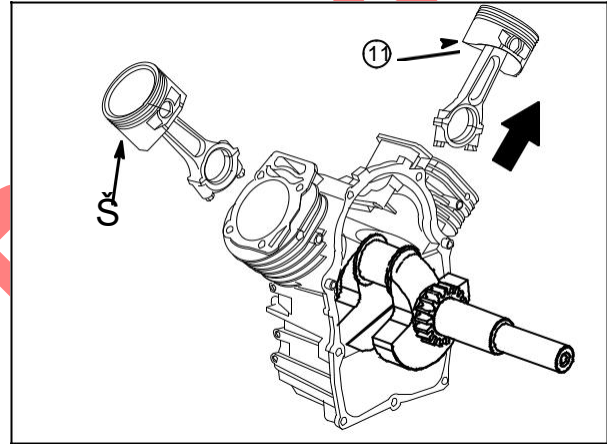

Fig. 27
Push connecting rod and piston assembly (11) out of #2 cylinder (arrow), **Fig. 27**. Reassemble cap to rod to prevent interchanging.
3. Repeat for #1 cylinder (10).